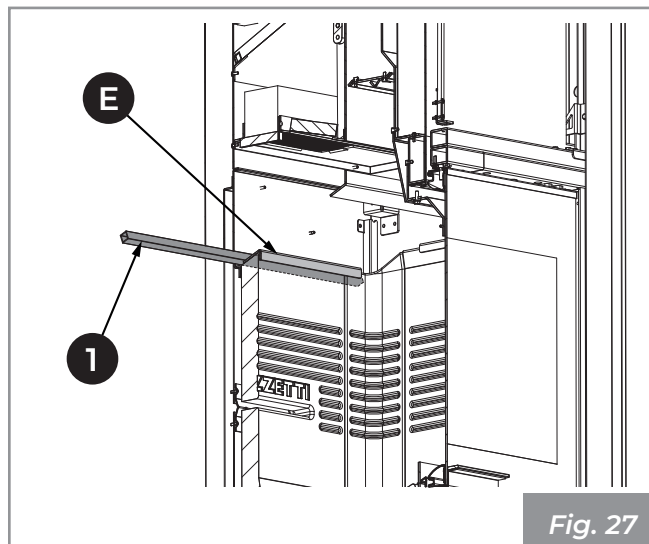

Fig. 27
12) Place the spacer (**1**) on the upper locking bracket (**E**) (**Fig. 27**).
13) Place the panels (**5**) resting them on the upper locking bracket (**E**) (**Fig. 27**).